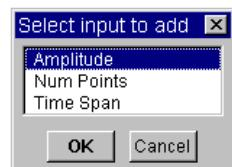

Figure 1-39. Example: Adding Input Terminals
1. Click on the object menu or press **Ctrl+A** with the mouse pointer in the “terminal area” at the left side of the Noise Generator. The dialog box appears for you to add an input, as shown in Figure 1-39.